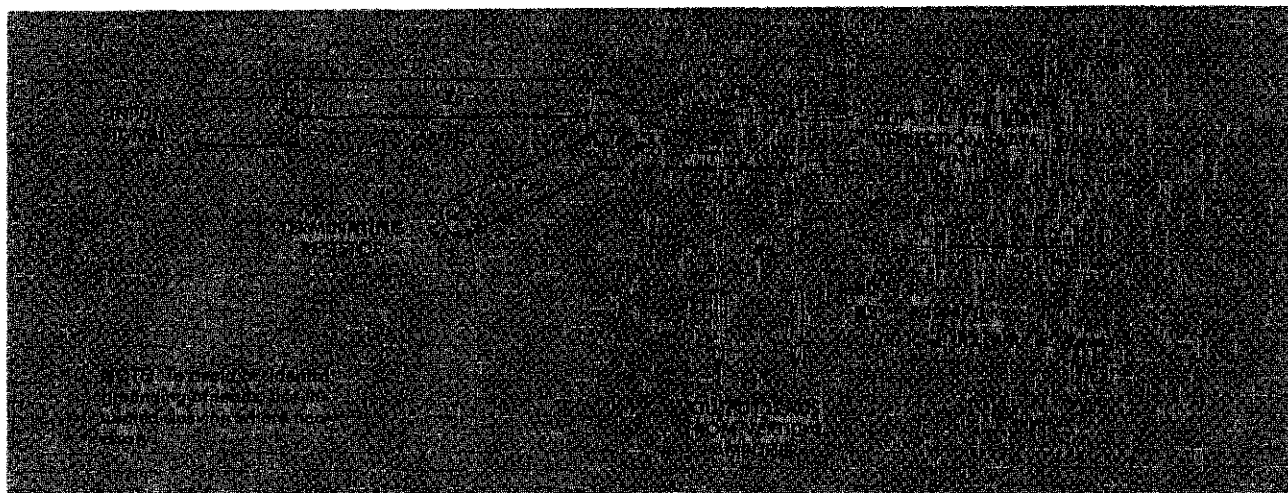

Fig. 3-8. Detailed method of ac-coupling the signal directly to the vertical deflection plates.
A typical circuit for ac-coupling directly to the vertical deflection plates is shown in Fig. 3-8. This circuit permits the internal vertical amplifier of the oscilloscope to be bypassed, but still allows the normal dc operating and positioning voltages to be applied to the deflection plates from the internal vertical amplifier. However, when using this circuit, you must use a high-quality external delay line
Only approximate values for two of the parts are given. The values of these and all other parts depend upon the crt, cable impedance, and lead lengths. Later on, some set-ups employing a 540-Series Oscilloscope are illustrated and described to show how optimum results were obtained by modifying the circuit shown in Fig. 3-8 to suit the specific application.
To find the resonant frequency (f_0) of the lead inductance and the deflection plate capacitance (C) for use in the equation shown in Fig. 3-8, use the method that follows. Turn off the oscilloscope power and disconnect the vertical amplifier output leads to the crt. Cut a wire loop which equals the total length of C1, C2, R1, R2, R3, R4. Substitute the wire loop for these components between the vertical deflection plate pins. Bring a grid-dip meter near the loop and measure the resonant frequency.
The value of R1 is found by solving the equation in Fig. 3-8. Make R2 the same value as R1.